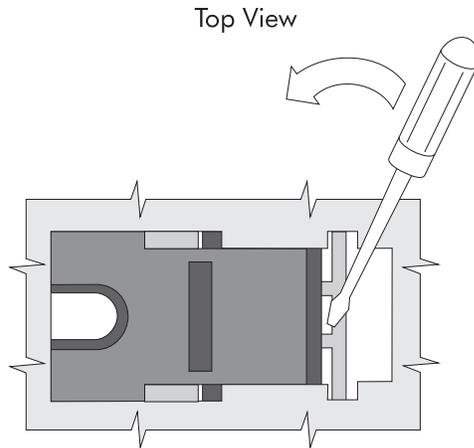

Figure 12. Removing and replacing the slide latches
4. Gently pry and press at the point shown in Figure 12 on page 14.